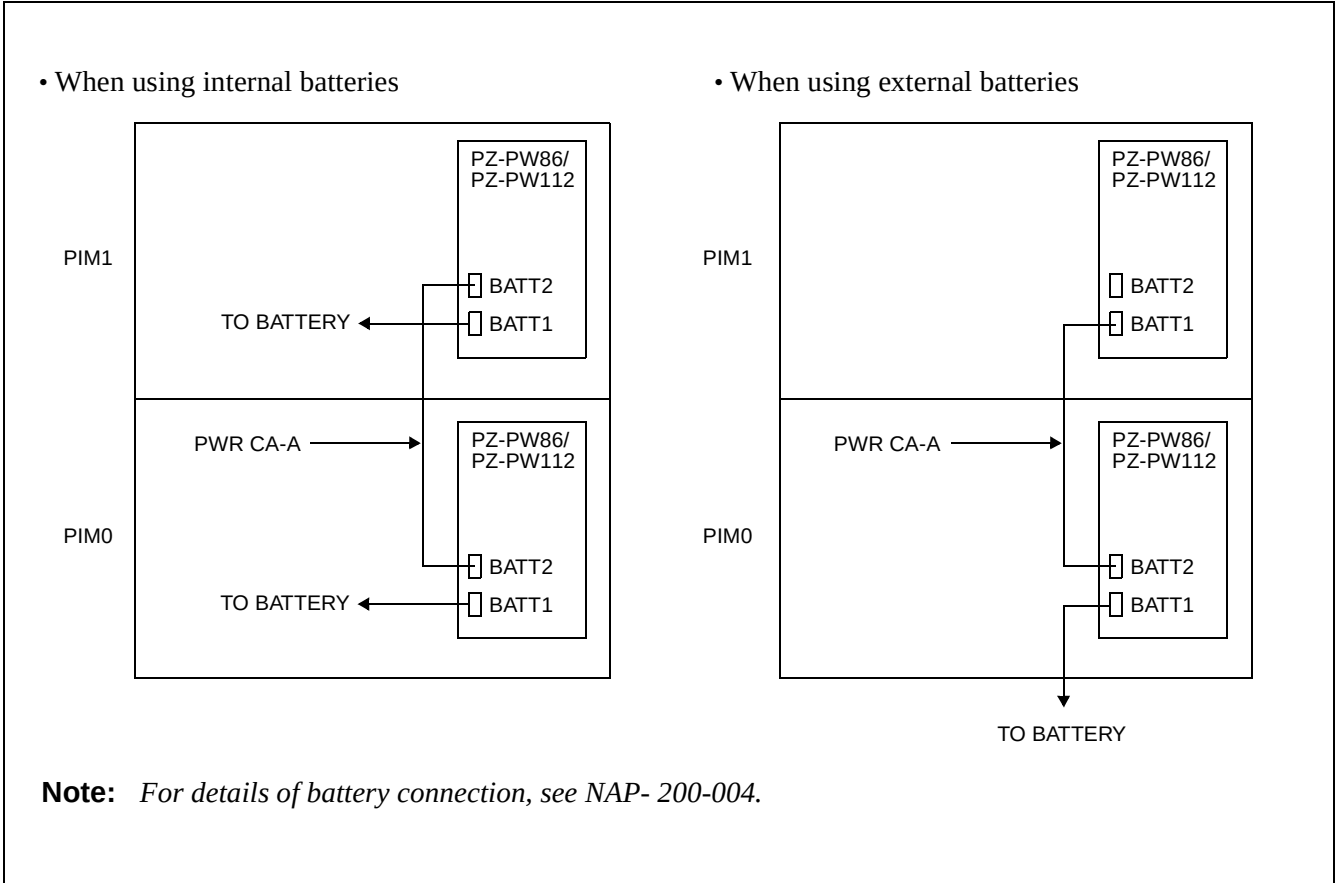

Figure 004-1 Connection of PWR CA-A Cables
- (1) When the system is two PIM configuration, connect the PZ-PW86/PZ-PW112 Cards to each other using PWR CA-A cables, as shown in Figure 004-1.